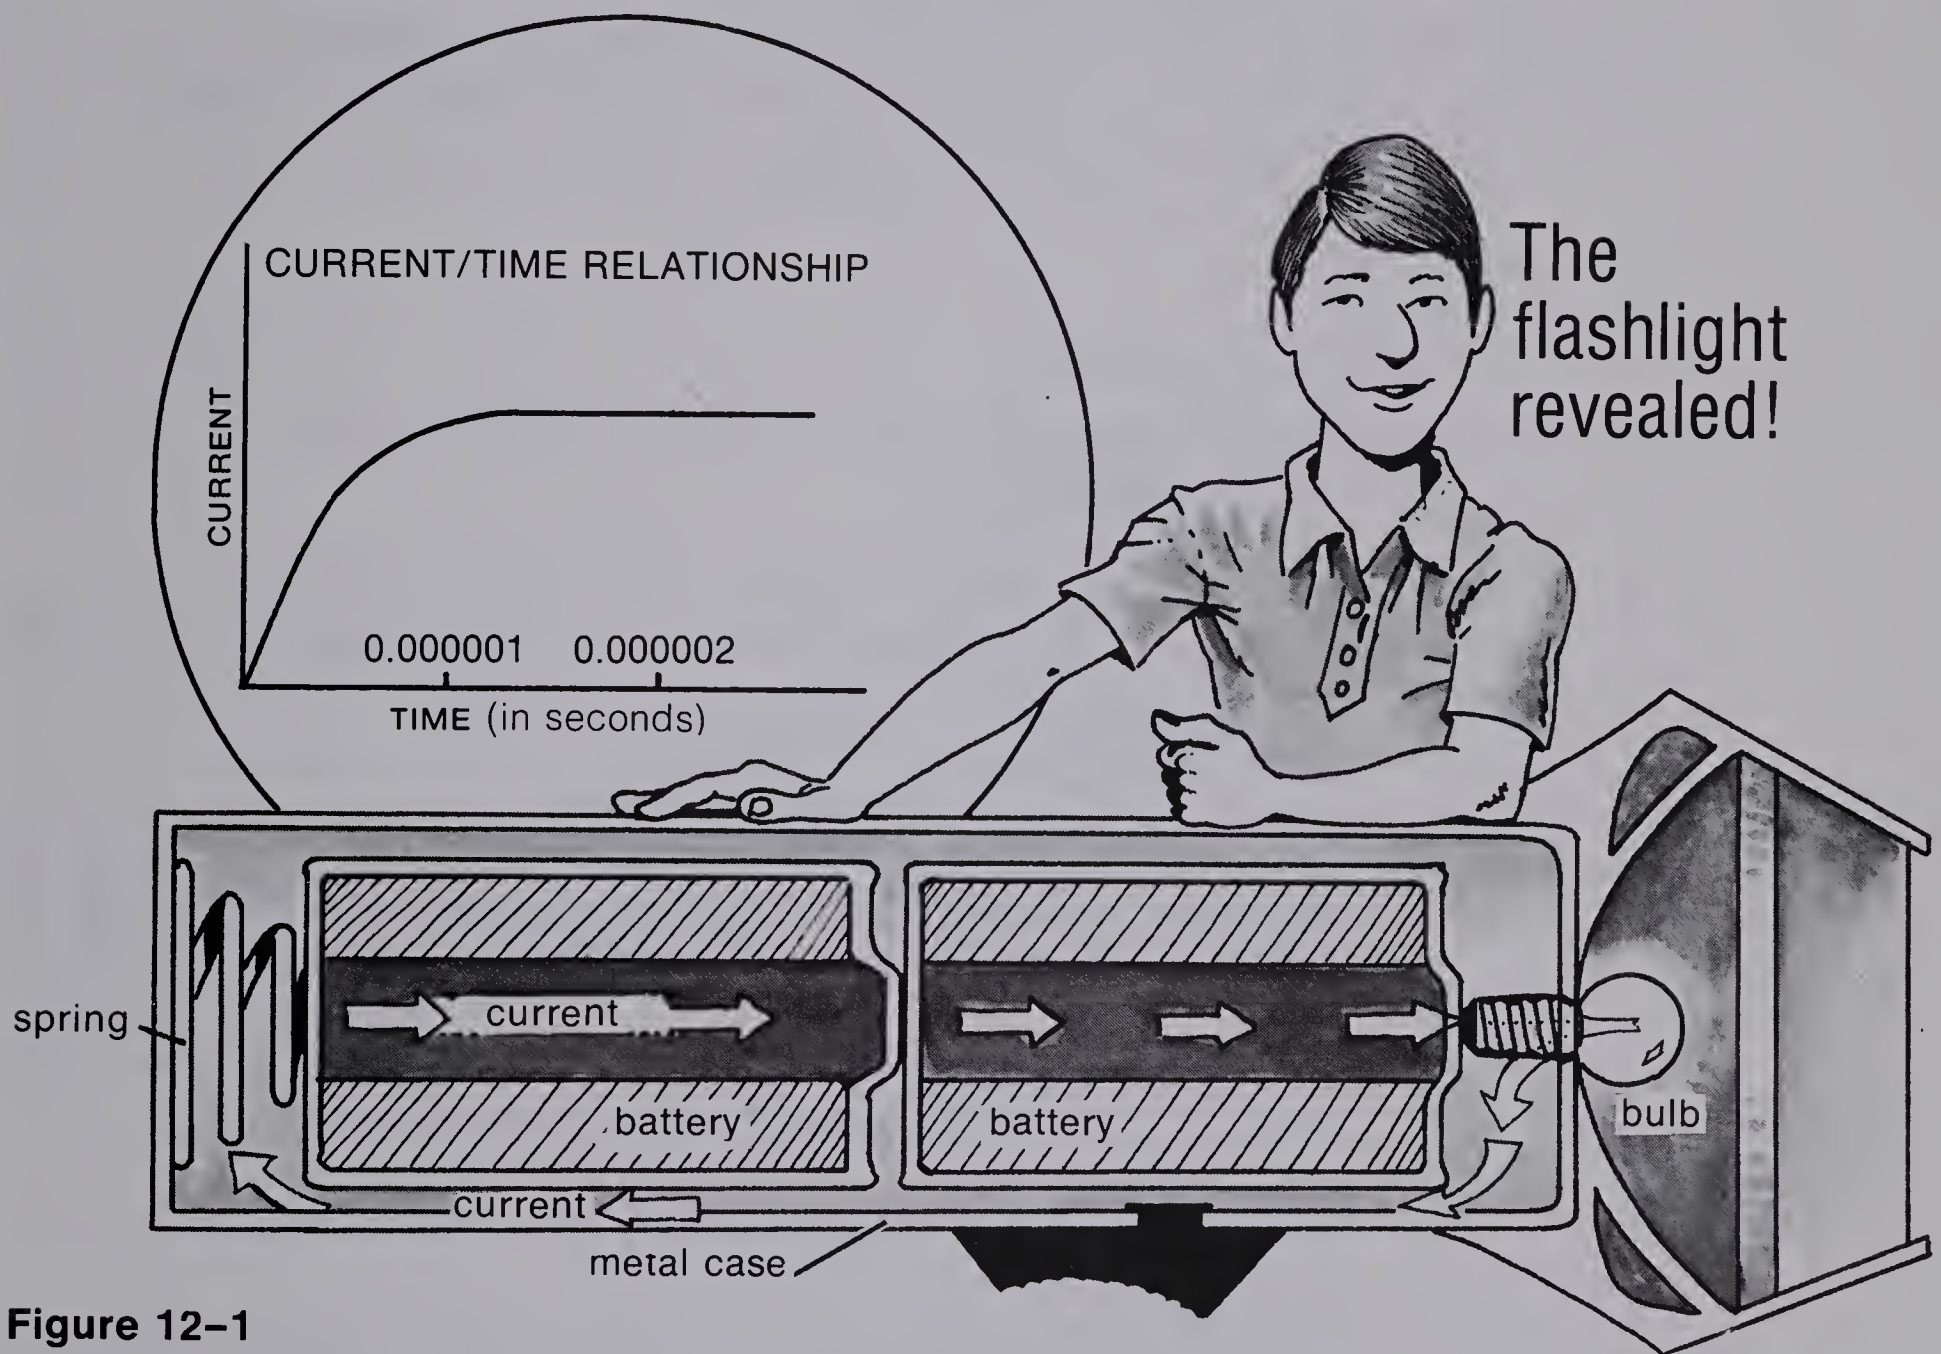

Figure 12-1
When the switch of a flashlight is turned on, the current increases very quickly. Figure 12-1 shows what happens in the first two-millionths of a second.
- 12-2. Identify the conducting path for the current in a flashlight, starting at the positive (center) terminal of the battery nearer the bulb (Figure 12-1).